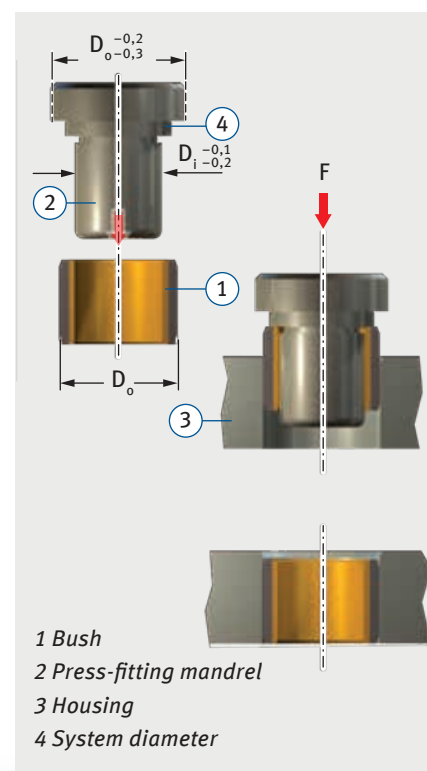

Fig. 3: Recessed press-fitting $D_o \geq 55$ mm
- Recessed press-fitting with mandrel, without auxiliary ring, as per Fig. 3.